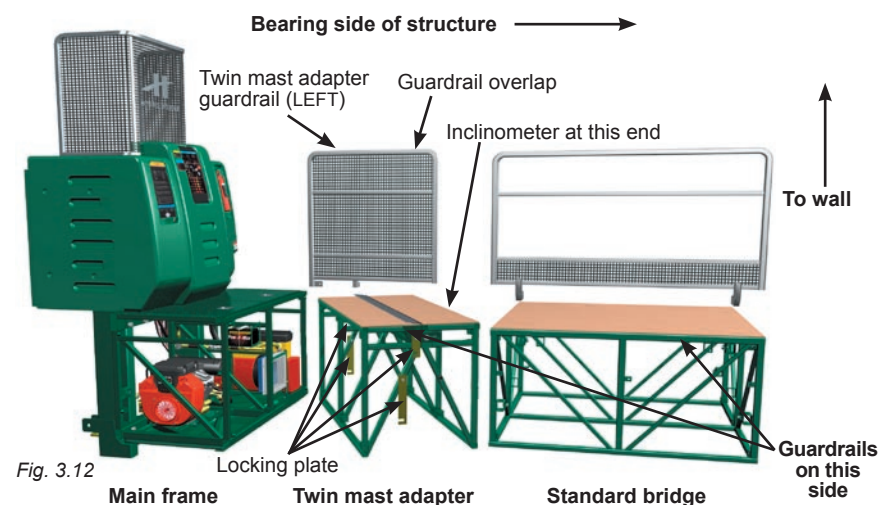

Fig. 3.12
- 1- Position the twin mast adapter so that the inclinometer is on the **bearing** side of the structure, **opposite** to the main frame (fig. 3.12).
- 4- Lift and unhook the top and bottom locking plates at both ends of the twin mast adapter (fig. 3.12). Failure to do so could result into serious damages.